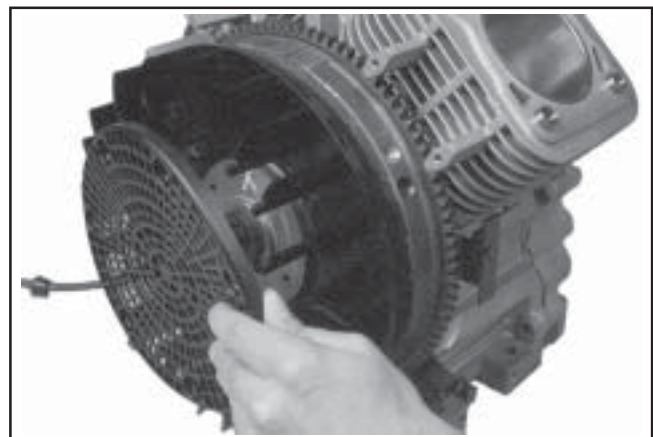

**Figure 11-30. Installing Fan on Flywheel.**
**NOTE:** Position the ears located at rear perimeter of the fan in the recesses of the flywheel. See Figure 11-30.